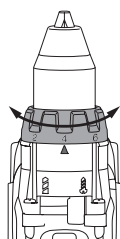

Fig. C5.04
- Set the torque level to "17" (Fig. C5.04)